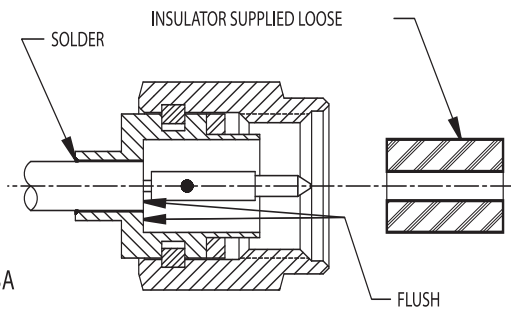

FIG. 3A
3. FOR CONNECTORS WITH INSULATORS SUPPLIED LOOSE: INSERT CABLE INTO BODY UNTIL CABLE IS FLUSH WITH SHOULDER IN BODY. SOLDER CABLE INTO BODY. TRIM ANY EXCESS DIELECTRIC MATERIAL. CLEAN. REFER TO FIG. 3A. FOR CONNECTORS WITH INSULATORS INSTALLED: INSERT CABLE INTO BODY UNTIL IT BUTTS AGAINST INSULATOR. SOLDER CABLE INTO BODY. CLEAN. REFER TO FIG. 3B.